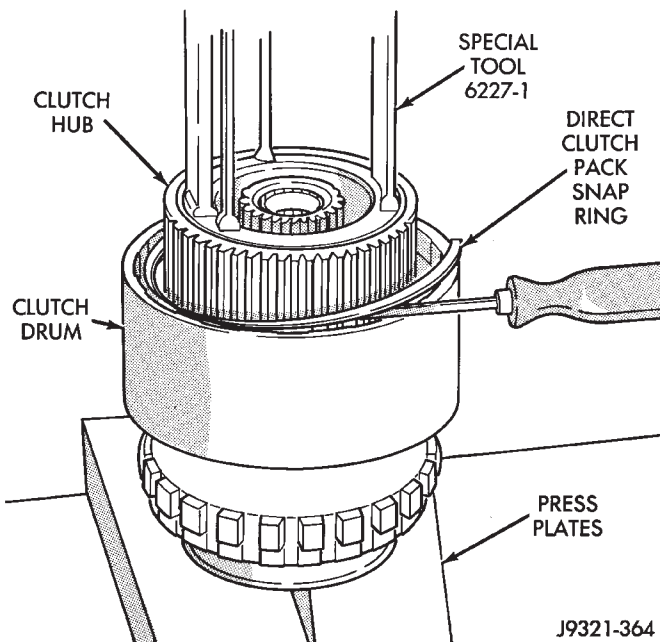

Fig. 207 Direct Clutch Pack Snap Ring Removal
(4) Remove direct clutch pack snap ring (Fig. 207).